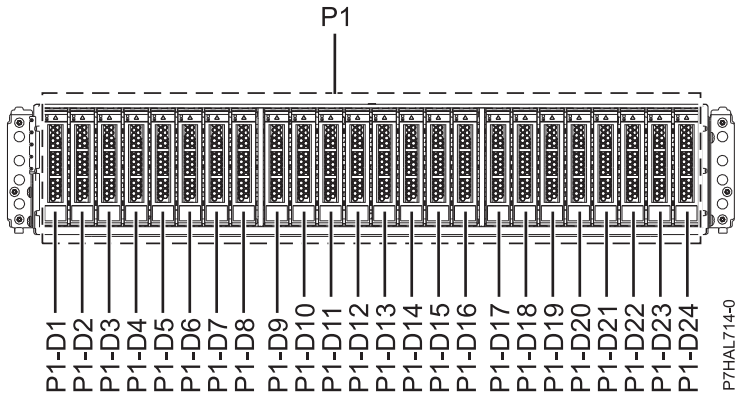
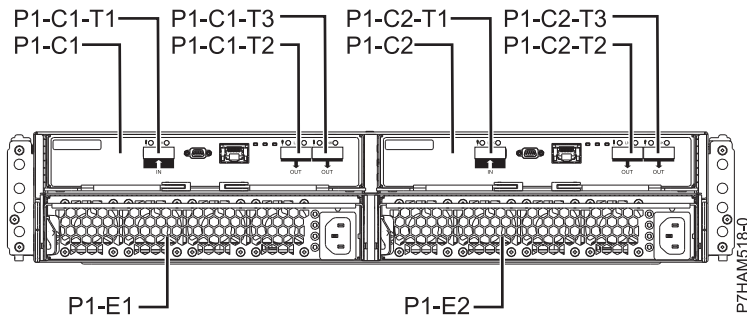

Figure 38. Front view of the 5887 disk drive enclosure showing the disk drive locations
Figure 39. Rear view of the 5887 disk drive enclosure
3. Identify the part and the enclosure that you want to service. The disk drive and SSD slots are located in the front of the enclosure. Figure 38 on page 39 and Figure 39 on page 39 show the front view and rear view of the enclosure and the disk drive locations in the enclosure.